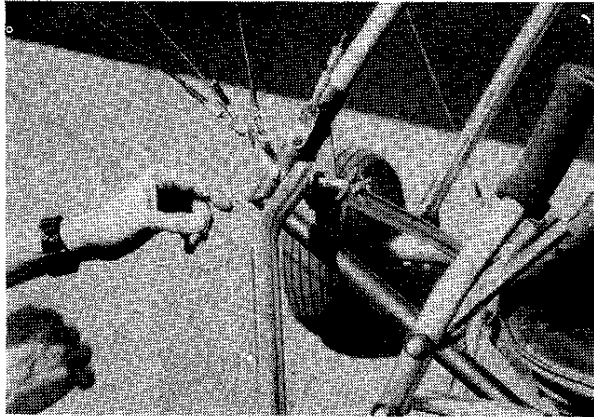

Figure 2.49
- 55.** Attach right and left landing gear nose struts to 1" channels at corners of triangle bar using 1/4" dia. T-handle pins and safety rings. **Figure 2.49**